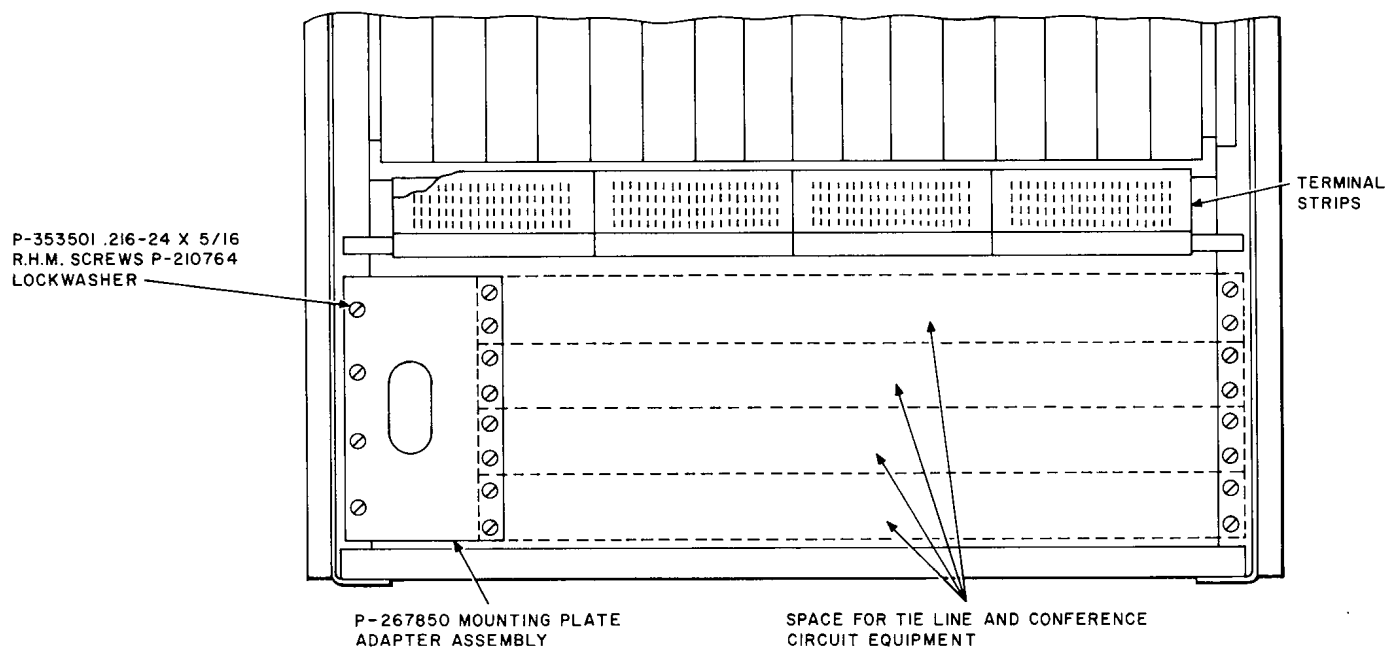

Fig. 17—Rear View—Mounting Detail for Tie Trunk and Manual Conference Circuit Equipment Units
(1) **In PBX:** The four 2- by 23-mounting plates may be installed in the bottom rear section of the PBX as shown in Fig. 17 except when this space is used as a cross-connecting point (3.28). The jack units are mounted above the piling rail and should be placed in position 10 to 14 of the trunk jack field. Each unit has a plug end and connection is made between units by means of an interconnecting cable.